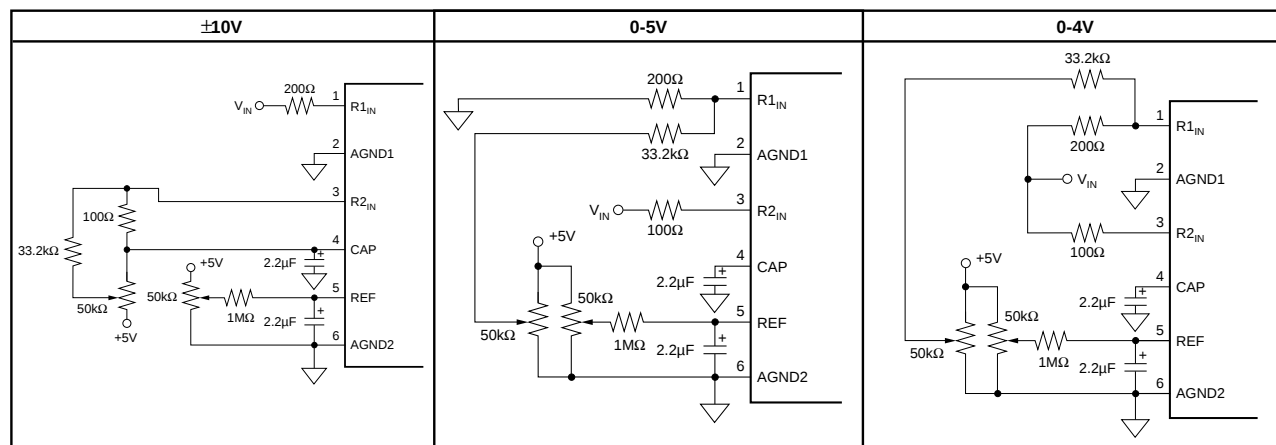
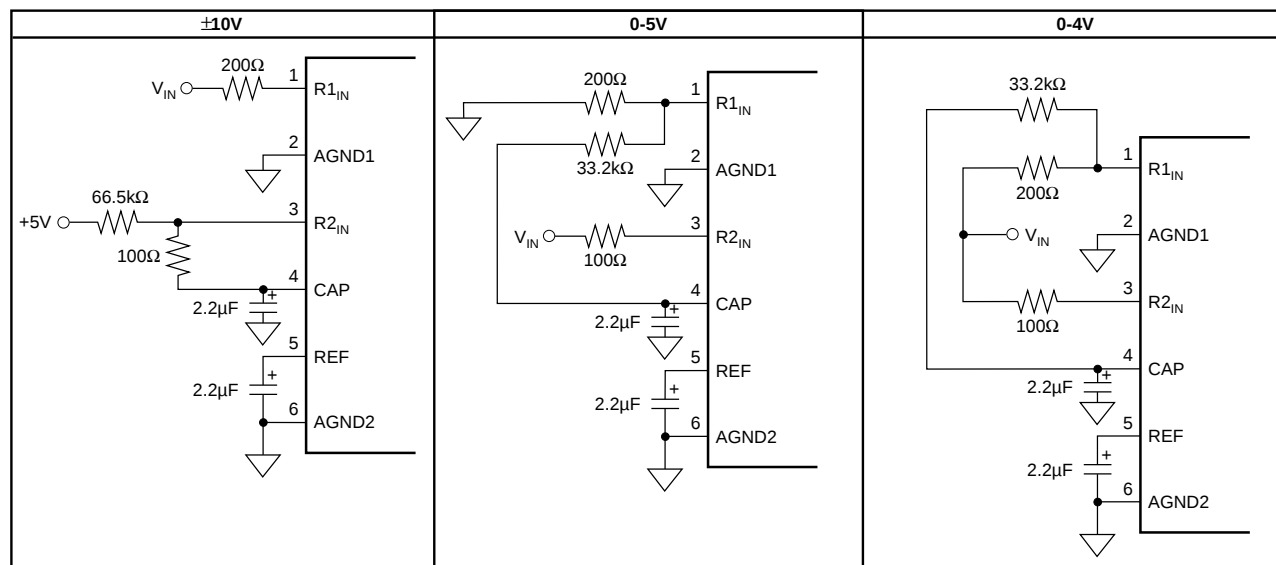
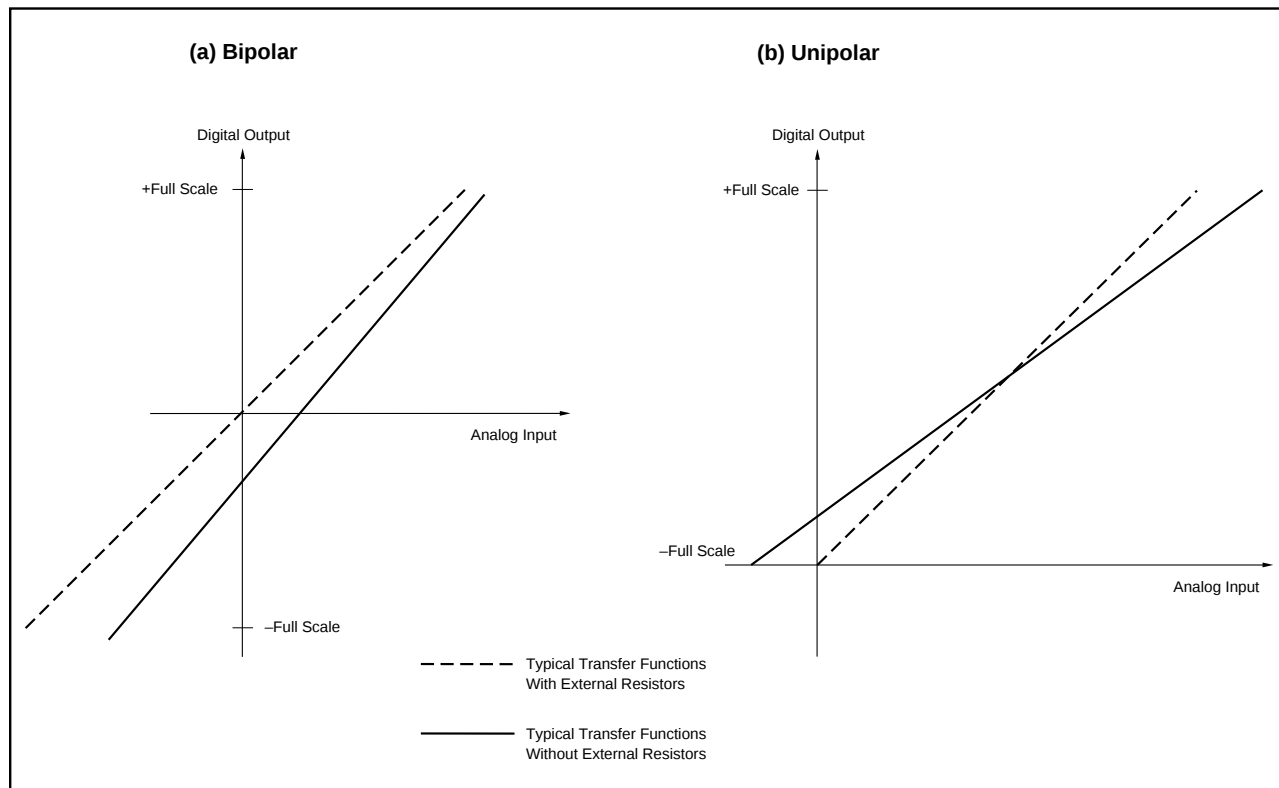

FIGURE 7a. Circuit Diagrams (With Hardware Trim).
FIGURE 7b. Circuit Diagrams (Without Hardware Trim).
FIGURE 8. Typical Transfer Functions With and Without External Resistors.
The ADS7807 offers three input ranges: standard  $\pm 10V$  and 0-5V, and a 0-4V range for complete, single supply systems. Figures 7a and 7b show the necessary circuit connections for implementing each input range and optional offset and gain adjust circuitry. Offset and full scale error(1) specifications are tested and guaranteed with the fixed resistors shown in Figure 7b. Adjustments for offset and gain are described in the **Calibration** section of this data sheet.
used for each input range (see Figure 8). The input resistor divider network provides inherent overvoltage protection guaranteed to at least  $\pm 25V$ .
To calibrate the offset and gain of the ADS7807 in hardware, install the resistors shown in Figure 7a. Table VII lists the hardware trim ranges relative to the input for each input range.
To calibrate the offset and gain in software, no external resistors are required. However, to get the data sheet specifications for offset and gain, the resistors shown in Figure 7b are necessary. See the **No Calibration** section for more
TABLE VII. Offset and Gain Adjust Ranges for Hardware Calibration (see Figure 7a).
See Figure 7b for circuit connections. Note that the actual voltage dropped across the external resistors is at least two orders of magnitude lower than the voltage dropped across the internal resistor divider network. This should be considered when choosing the accuracy and drift specifications of the external resistors. In most applications, 1% metal-film resistors will be sufficient.
The external resistors shown in Figure 7b may not be necessary in some applications. These resistors provide compensation for an internal adjustment of the offset and gain which allows calibration with a single supply. Not using the external resistors will result in offset and gain errors in addition to those listed in the electrical specifications section. Offset refers to the equivalent voltage of the digital output when converting with the input grounded. A positive gain error occurs when the equivalent output voltage of the digital output is larger than the analog input. Refer to Table VIII for nominal ranges of gain and offset errors with and without the external resistors. Refer to Figure 8 for typical shifts in the transfer functions which occur when the external resistors are removed.